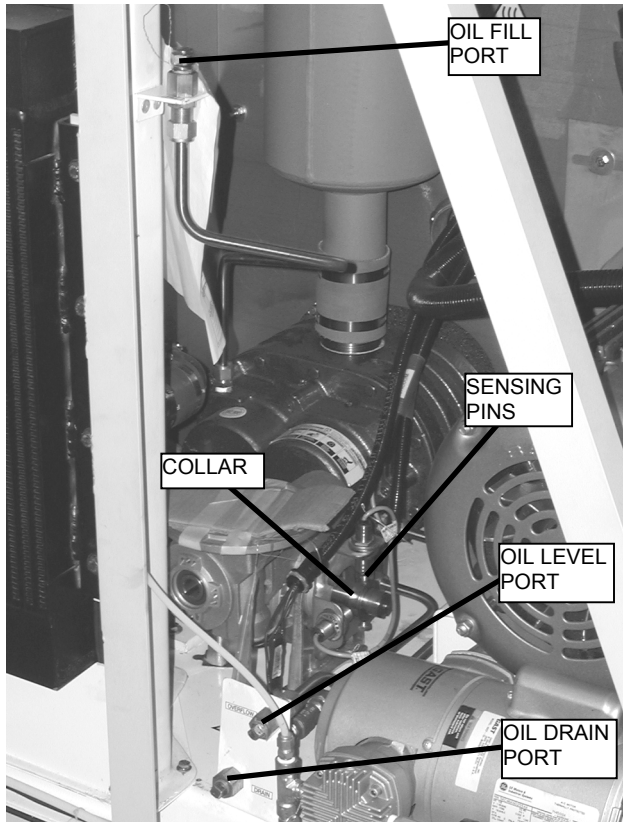

Figure 3. Blower Gear Case Oil Ports.
Check the oil level in the blower weekly. This is done by removing the plugs on the oil fill port and the oil level port and pouring the proper oil (Table 4 or WP 003 00, Table 1) into the fill port until oil begins to trickle from the oil level port. Refer to Figure 3.
- f. Loosen the setscrew on the collar with the sensing pins. Refer to Figure 3.